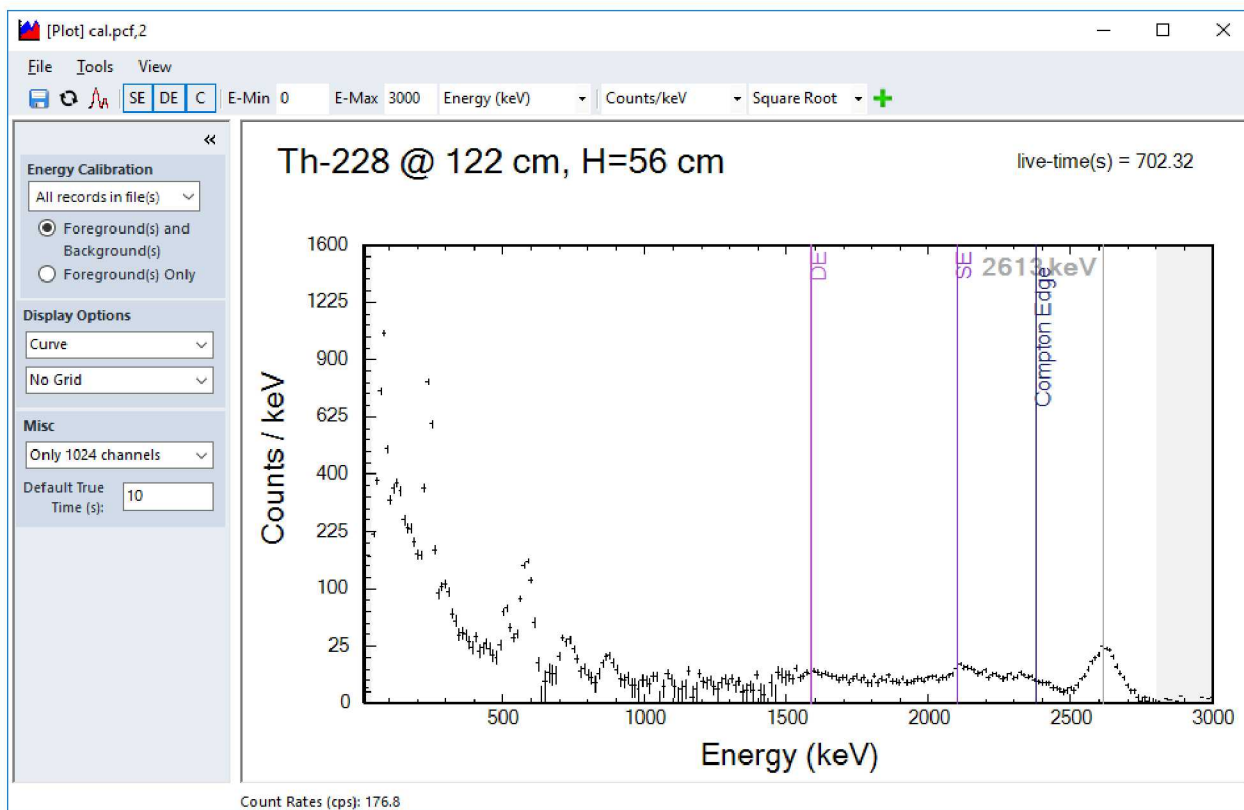

Figure 21. Spectral Features from View Menu
- **SE** Show the single-escape line (see Figure 21)
- **DE** Show the double-escape line (see Figure 21)
- **C** Show the location of the Compton edge (see Figure 21)
The **View** menu allows users to display common features of a plot using the cursor. When users select any of Single Escape, Double Escape, or Compton Edge, the cursor location on the spectrum is used as a starting point and energies of the specific features are calculated and displayed on the screen (Figure 21).